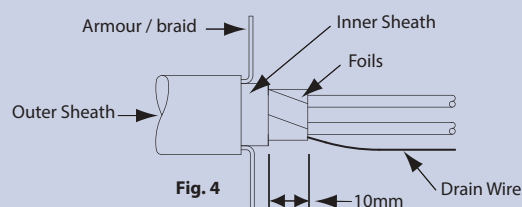

Fig. 4
- 3.3 Cut back a further 10mm of inner sheath (See Fig. 4).